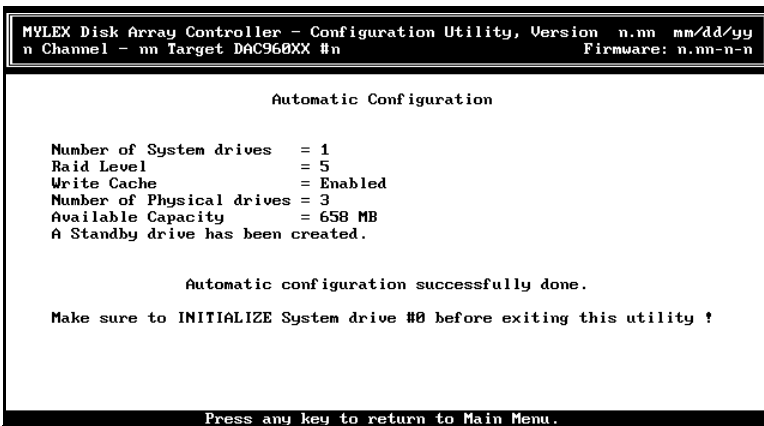

Figure 2-15. Automatic Configuration Summary Screen
5. Once the appropriate option is selected, the configuration is saved and a summary screen (Figure 2-15) is displayed. This summary screen displays the operating parameters for the configuration.